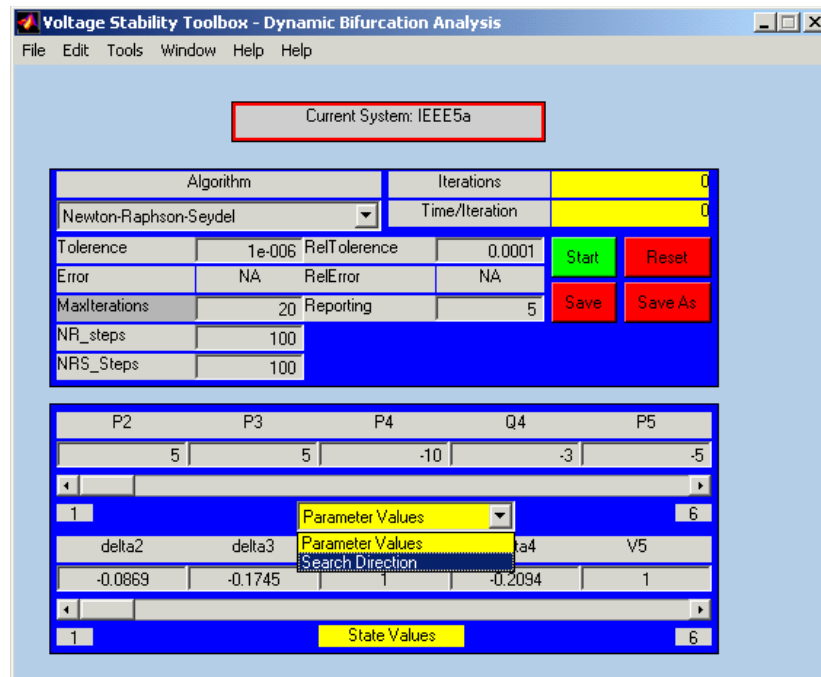

Fig. A.20 The Dynamic Bifurcation Analysis window
- This will activate the Dynamic Bifurcation Analysis window shown in Fig. A.20.